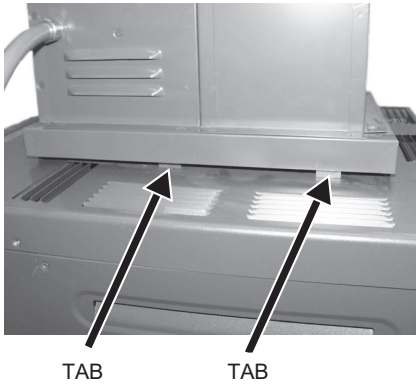

Figure 13. Tab Location
- 11. Push in all four bracket tabs, so the Power Vent locks into position. See **Figure 13**.